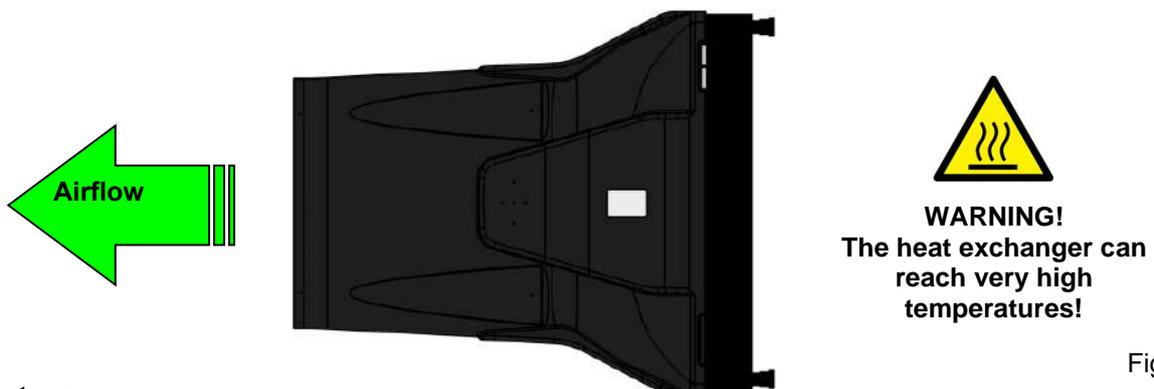

Fig. 3.2.1
- Check the correct air flow direction (Fig. 3.2.1);